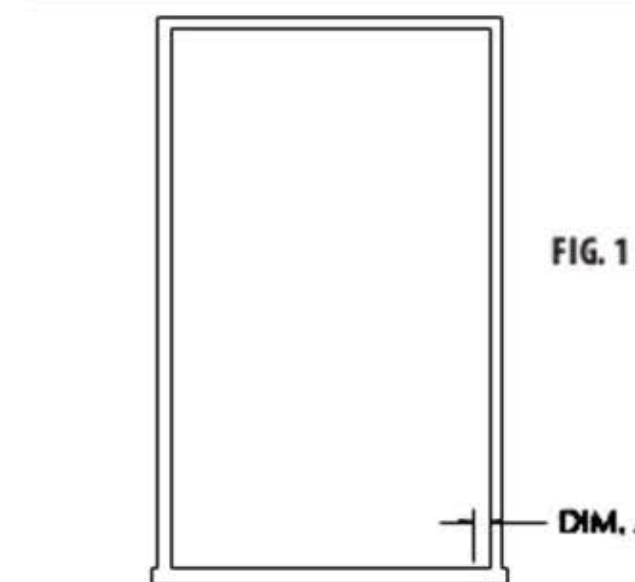

FIG. 1
1. Measure the distance from the inside wall of cabinet to face frame (see fig. 1) and record (both sides). We will refer to this measurement as "Dim. A".